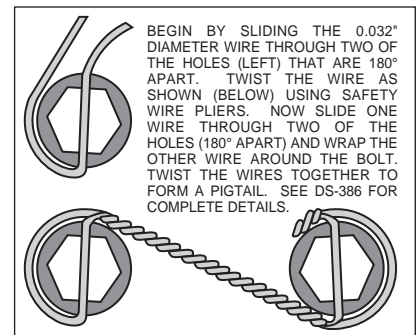
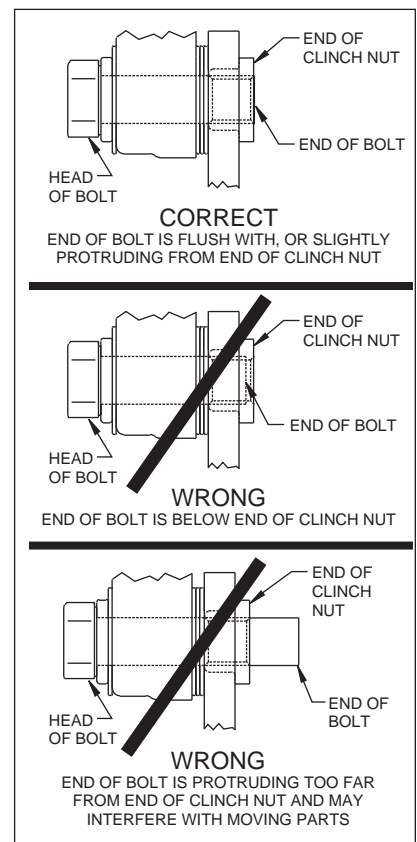

Figure 3. Safety Wire Diagram
Figure 4. Clinch Nut Engagement Diagram
- The rotor (3) has two sides. A flat side and an inset side. Bolt hat (2) to flat side of rotor (3) using bolts (5). Using an alternating sequence, apply red *Loctite*® 271 to the threads and torque bolts to 25 ft-lb. For an added measure of security, the bolts may be safety wired using standard 0.032 inch diameter stainless steel safety wire as shown in Figure 3. Refer to Wilwood's data sheet DS-386 (available at www.wilwood.com/Pdf/DataSheets/ds386.pdf) for complete safety wire installation instructions.
- Align the correct hole pattern in the hat (2) with the stud pattern on the axle flange. **NOTE:** Some OEM and after market axles come with stud sizes larger than 0.50" diameter. Verify stud size and have a qualified machine shop drill the hats to the correct size. Slide the hat/rotor assembly (2 and 3) over the wheel studs and against the axle flange face.
- NOTE:** Please reference the caution statement at the beginning of the assembly instructions. Mount the caliper (6) over the rotor (3) and onto the caliper mounting bracket (1) using washers (7) and mounting bolts (8). View the rotor through the top opening of the caliper. The rotor should be aligned in the center of the caliper. If not, adjust the caliper by using 0.032 inch shims (9) by placing them between the caliper mounting bracket (1) and the caliper (6). Add as many shim washers (9) as necessary to achieve the correct alignment. **NOTE:** The end of the bolt must be flush with or slightly protruding from the head of the clinch nut. See Figure 4. Place spare shims (9) between washer and caliper mounting ear to achieve the proper mounting fastener configuration. Always use the same amount of shims on both the top and bottom caliper mounting bolts (8). Apply red *Loctite*® 271 to the mounting bolt threads (8), torque to 40 ft-lb. Caliper mount bolts may be safety wired for additional security.
- Position the Wilwood disc brake pads (10) into the caliper (6) and fasten with cotter pin (4). Steel backing plate side of brake pad should face the caliper pistons.